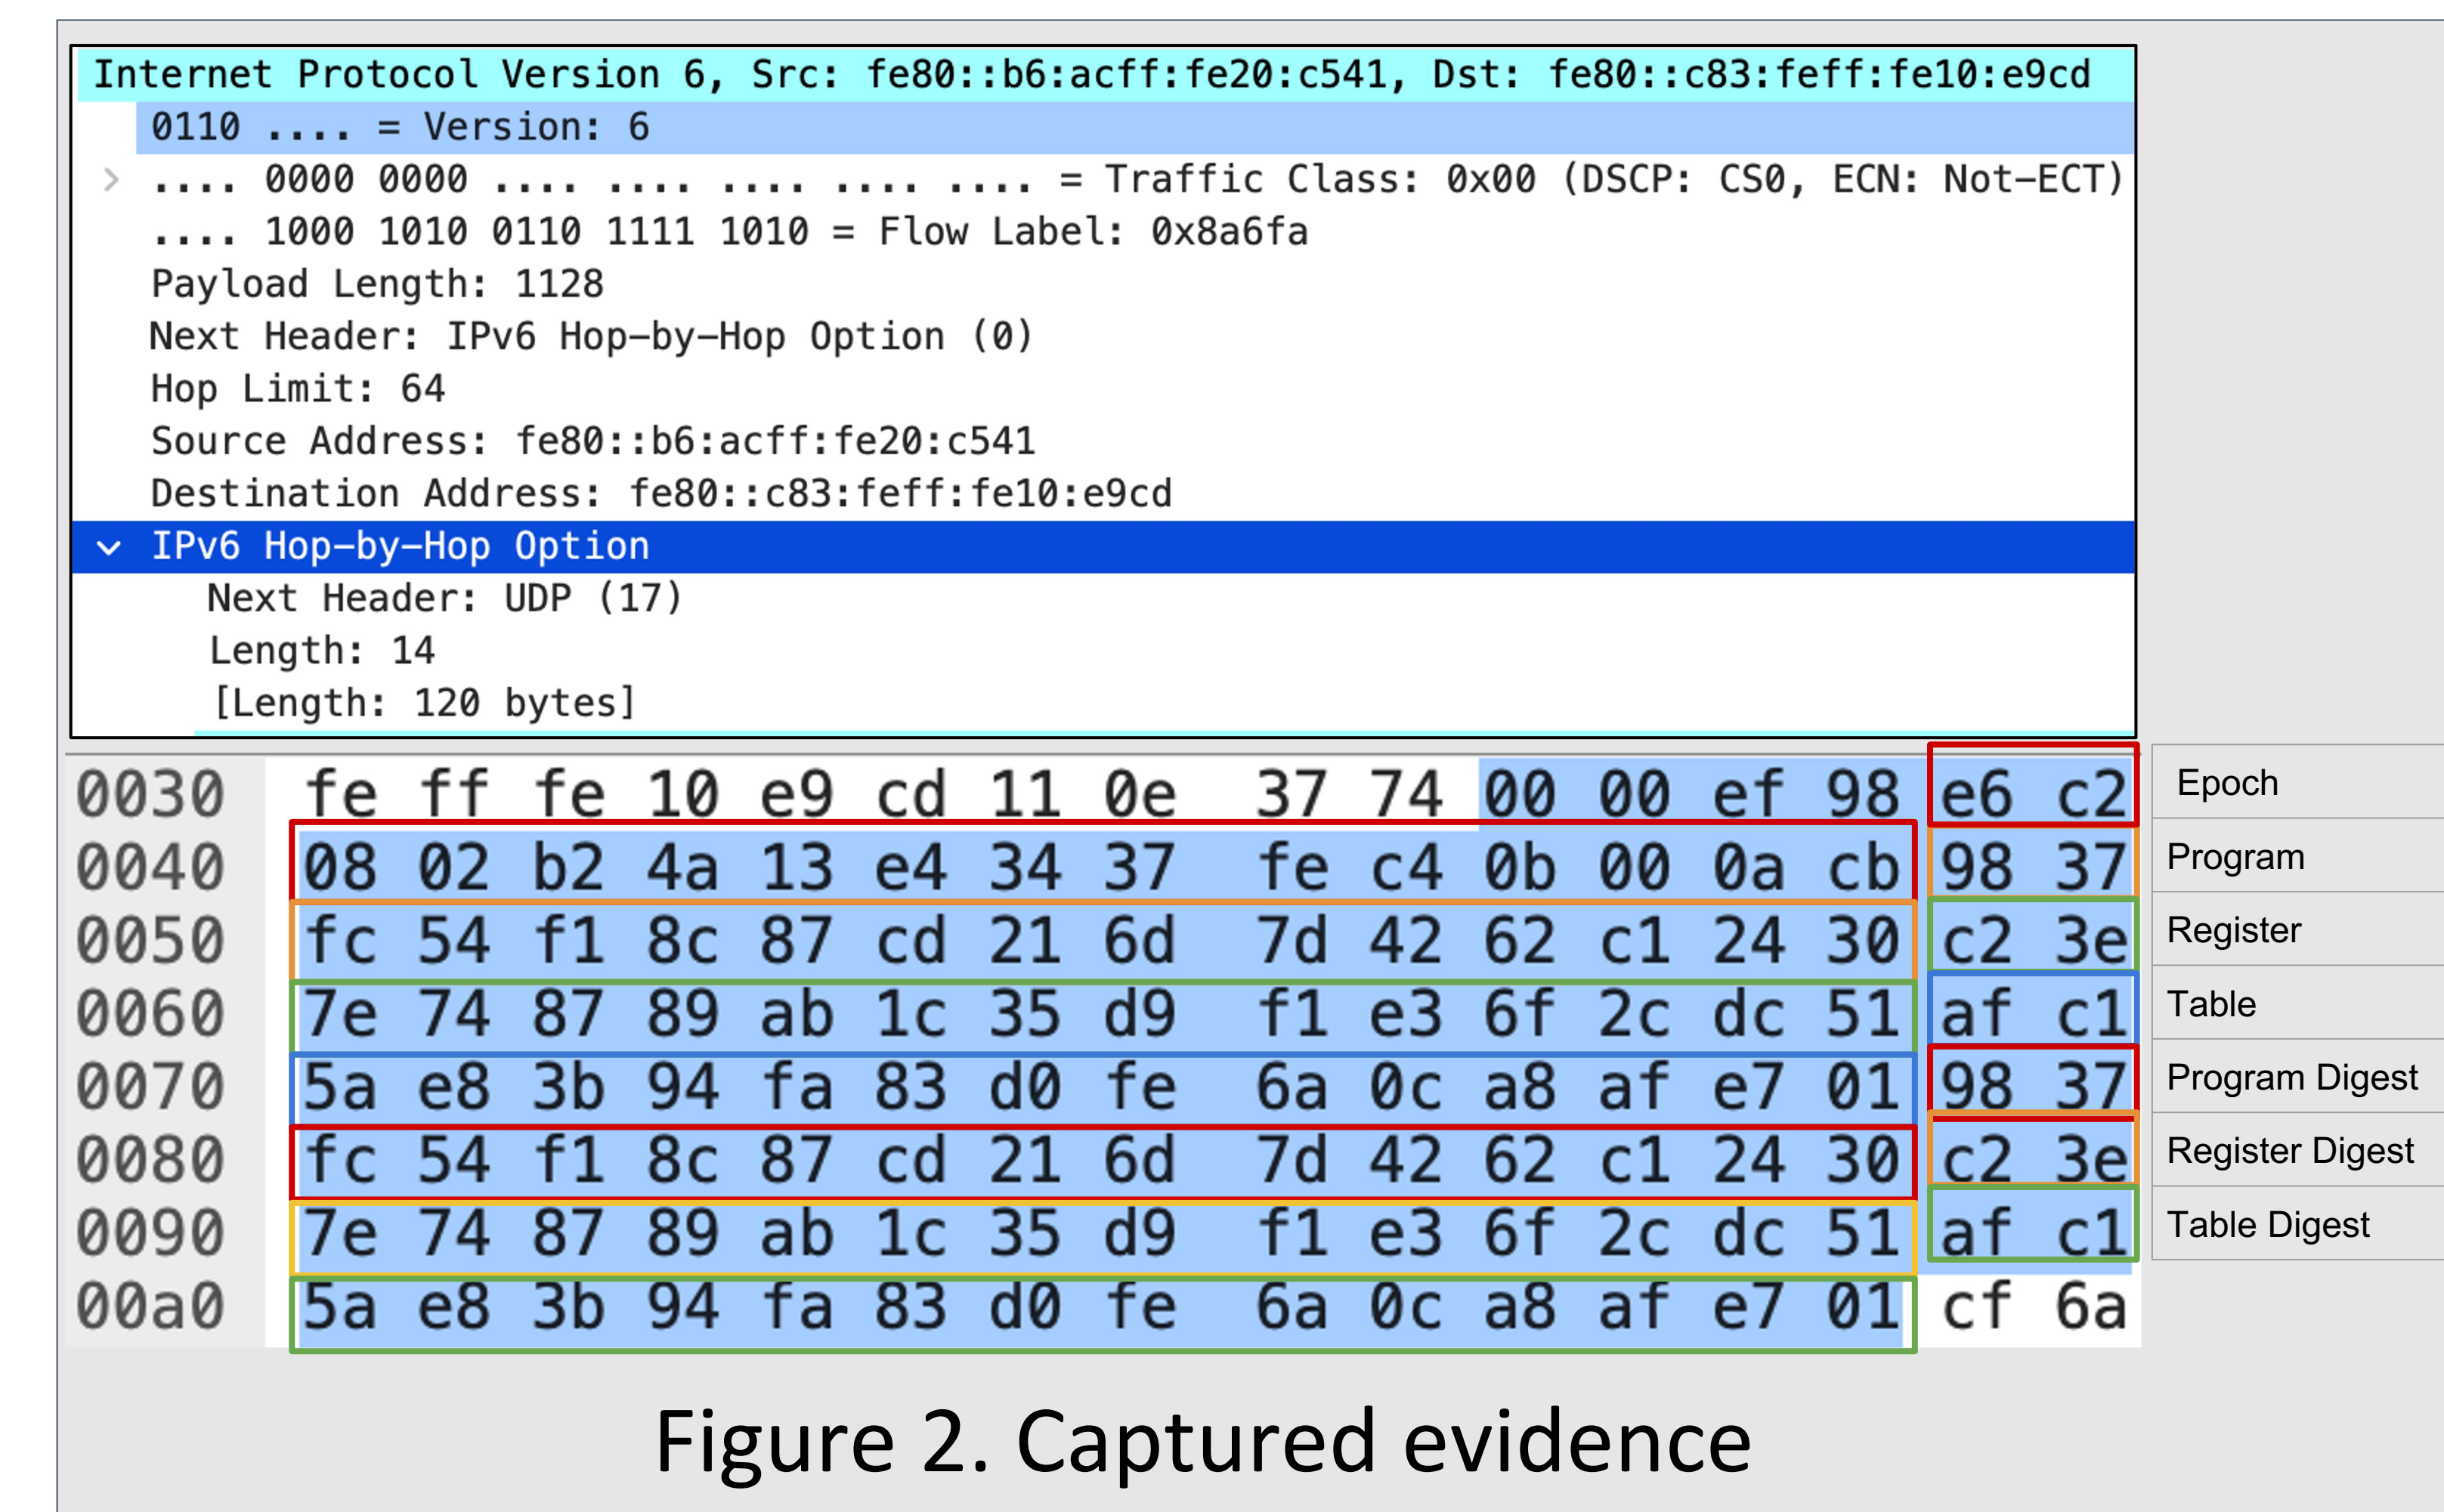

Figure 2. Captured evidence
- We compare the HBH header (Fig 2) as seen at the receiver and verify that the state values have been transmitted successfully and correctly.